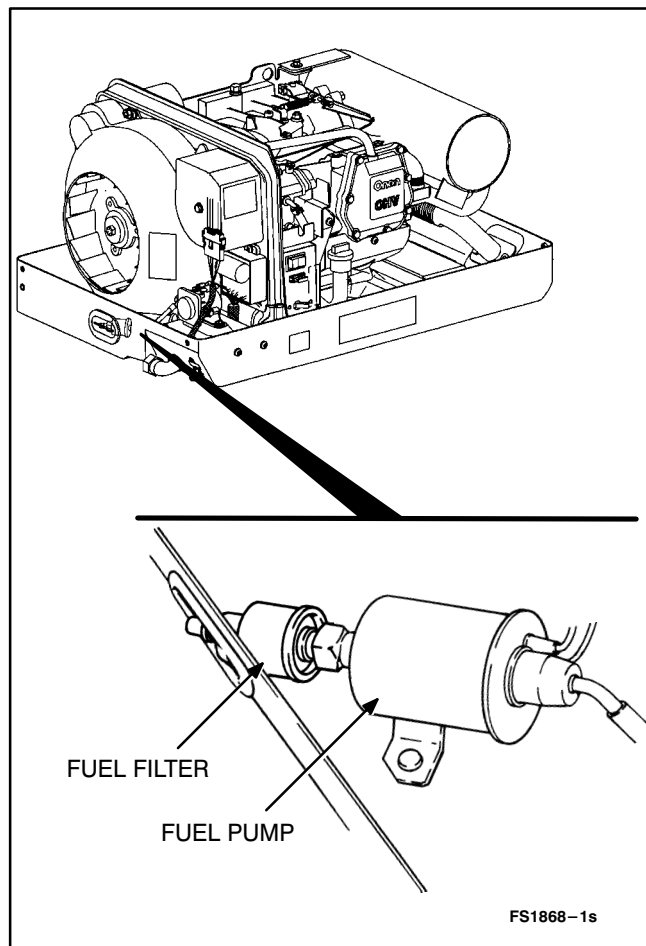

FIGURE 8-16. FUEL FILTER REPLACEMENT
1. Close the fuel supply valve (if equipped) or remove the fuel line from the fuel filter. Plug the end of the fuel line to prevent fuel leakage and vapor accumulation. See Figure 8-16.